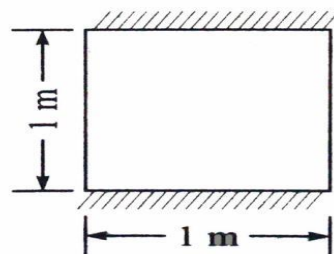

Fig.2
8. For the two dimensional body as shown figure 2, determine the temperature distribution. The left and right ends have constant temperatures of 200°C and 100°C respectively. Take $k=5 \text{ W/cm}^\circ\text{C}$. The body is insulated along the top and bottom. (15M)